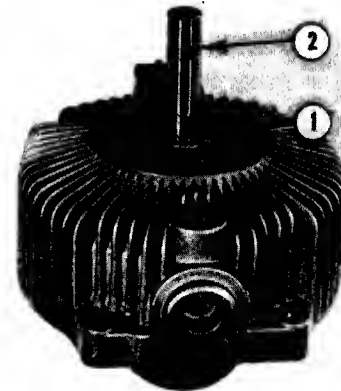
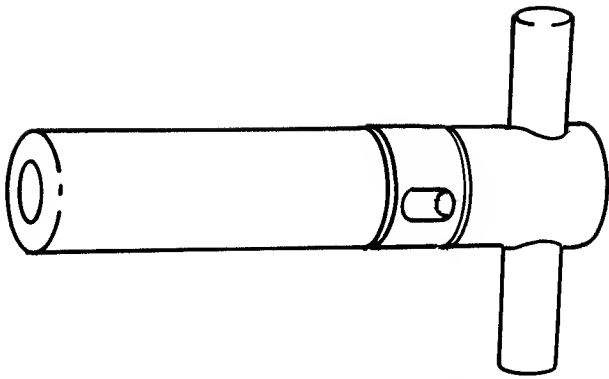

FIG. 4.51-INPUT SHAFT SNAP RING
FIG. 4.52-CHECK INPUT SHAFT
3. Remove snap ring, No. 1, Fig. 4.51, from input shaft, No. 2, and slide shaft inward. Inspect input shaft assembly, Fig. 4.52, for excessive wear and replace if necessary.